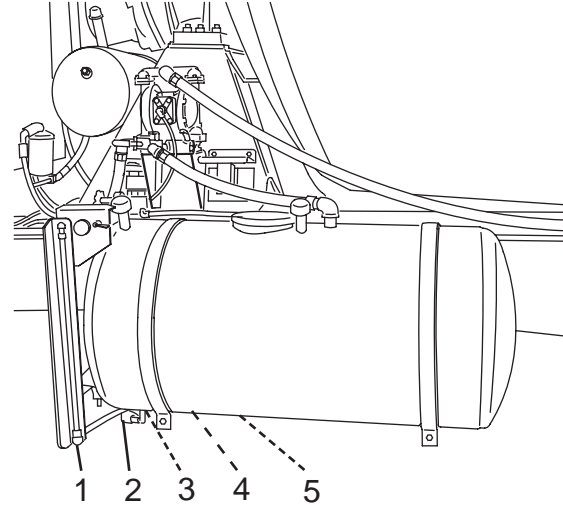

Figure 81
3. Remove the water tank drain plug(s) (Figure 81, Items 3 and 5), or open the drain valve(s) (if equipped).
4. Open the main tank (Figure 81, Item 4) and chemical tank (if equipped) (Figure 81, Item 2) sight glass isolator valves.
5. Open the sight glass drain valve(s) (Figure 81, Item 1).
6. When no more water comes from the tank drain(s), install the water tank drain plug(s) (Figure 81, Items 3 and 5). Tighten the plug(s) until snug.
7. Close the sight glass drain valve(s) (Figure 81, Item 4).